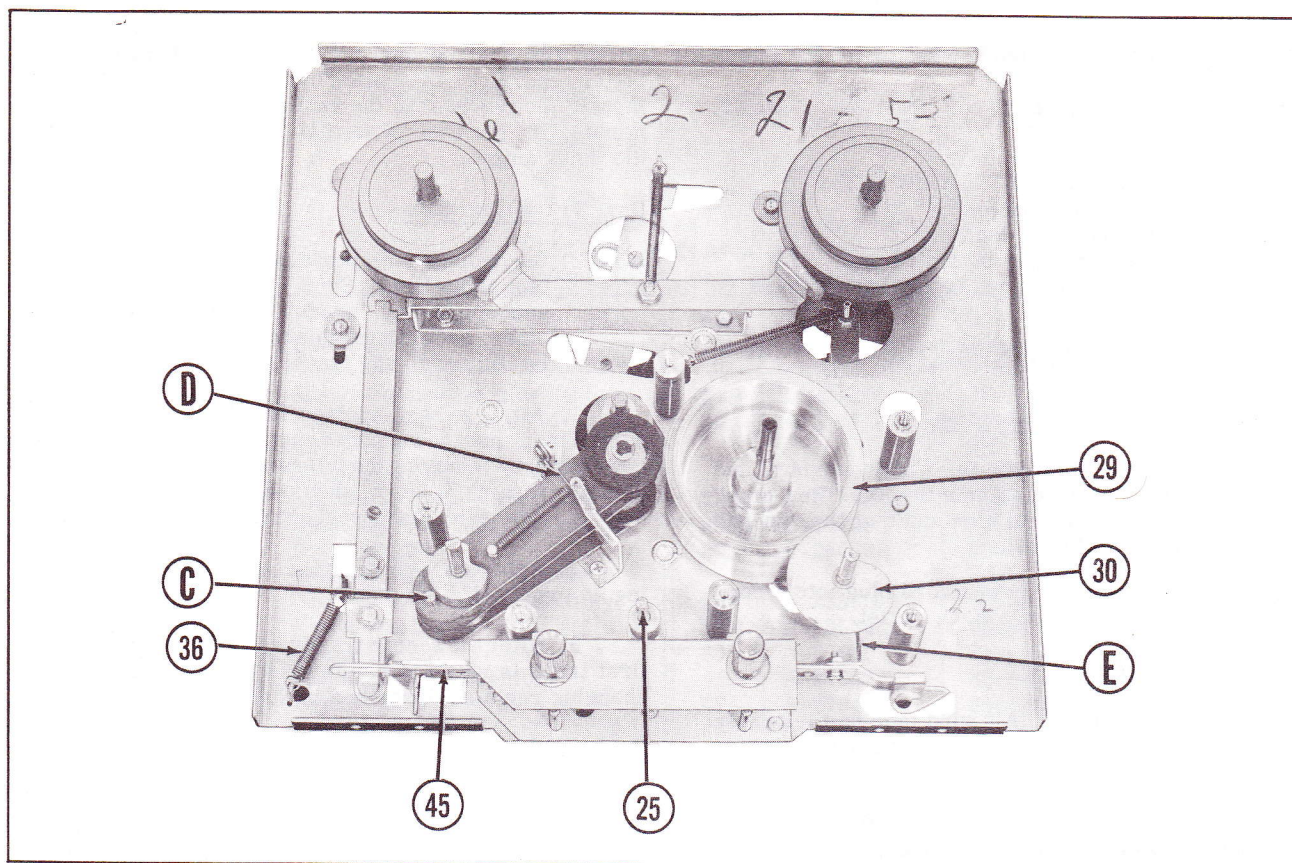

Figure 2
Loosen the fast forward adjustment screw (see Figure 2) about $1/2$ turn. To tighten belt, reach under bottom plate and slide the fast forward and play pulley assembly (71) away from the take-up reel support (8). Move very little at a time as this adjustment is very critical. After adjustment is made, tighten screw.
(Refer To Exploded View And Figure 2)-
1. (For units with serial #14,000 to 15,200 and for units with serial numbers beginning with 25,000, 35,000 and 45,000). Speed cams (40), (41), and (42) must clear the control pins (point "C" Figure 2) by approximately 1/16" when that particular slide is engaged. Position of motor on motor mounting plate and position of motor mounting plate on spacers will effect this. See paragraph on motor mounting.
The control pins (point "C" Figure 2) must be in the center of the speed cam notch (40), (41), or (42), when that particular slide is engaged. To adjust, loosen set screw and turn cam. Spacing between the phenolic slides should be such that they are parallel
2. (For units with serial #14,000 to 15,200 only). The phenolic slides must clear the sides of speed slide bracket (44) when that particular slide is engaged. Speed slide bracket (44) should be located as near the motor pulley and pressure roller (22) as the mounting slots will permit. This will allow full use of the slide springs.
3. (This applies to all units). The speed slide dampers (point "D" Figure 2) must press down firmly on the phenolic slides to hold idler wheels in position when engaged. However, this damper spring must not interfere with the smooth operation of the slide against its spring tension. Adjust damper springs carefully with mounting screws on side of speed slide bracket (44).
(For units with serial #14,000 to 15,200 and for units with serial number beginning with 25,000 and 35,000). Adjust record safety release cam (31) with the run-stop control (2) in the "Run" position. With the point of the cam to the left, adjust cam so that the front diagonal slope of the pointer is parallel to the front of the bottom plate. Adjust height so that it contacts record safety release (point "E" Figure 2) approximately in the center.
2. Oil thrown onto driving surfaces will cause poor drive, resulting in wow and flutter. Driving surfaces are motor pulley, speed slide rollers (37), (38), or (39), flywheel and capstan (29), and pressure roller (22). Clean with a soft absorbent tissue or cloth lightly dipped in a naptha-type thinner. Do not soak. Severe wow at capstan speed may be due to a bent capstan shaft.
3. If flutter is high at a particular speed, check speed roller. Observe roller as unit operates, roller must spin smoothly, in a plane parallel to plane of flywheel rotation, and without vibration. If speed roller climbs on shaft, motor may be tilted excessively (check motor mounts) or speed slide may be warped (replace). Vibrating speed slide may be due to a bad speed roller (check shaft fit and concentricity). Damper springs (point "D" Figure 2) must press lightly on slides, just enough to hold in position, but not so hard as to cause excessive friction and interfere with freedom of sliding action. See "Speed Slide Cam And Damper Adjustment".
5. The capstan pressure roller (22) can cause wow at its rotational speed. Check for clean bearing surfaces, clean roller O.D. and be sure operation is smooth. Pressure roller (22) must engage against capstan surface squarely and uniformly. Check for smoothness of end-thrust washers. Replace roller, if necessary.
6. A vibrating take-up reel support (8) can also reflect flutter into the machine thru tape or belts. If this is the case, replace the take-up reel support.